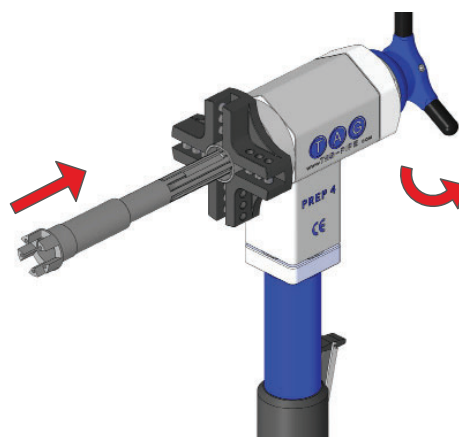

Figure 3-12 Outside elbow shaft installation
3. Insert the outside elbow shaft from the elbow kit and rotate the feed wheel clockwise, as shown in Figure 3-12.